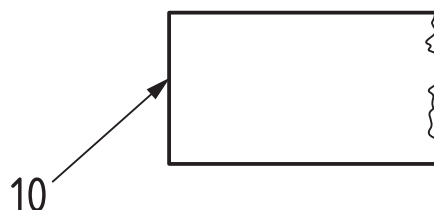

Figure 2 — Part reference number written with larger character height
- b) using characters of a larger height, for example twice the height as used for dimensioning, and similar indications (see Figures 2 and 3).